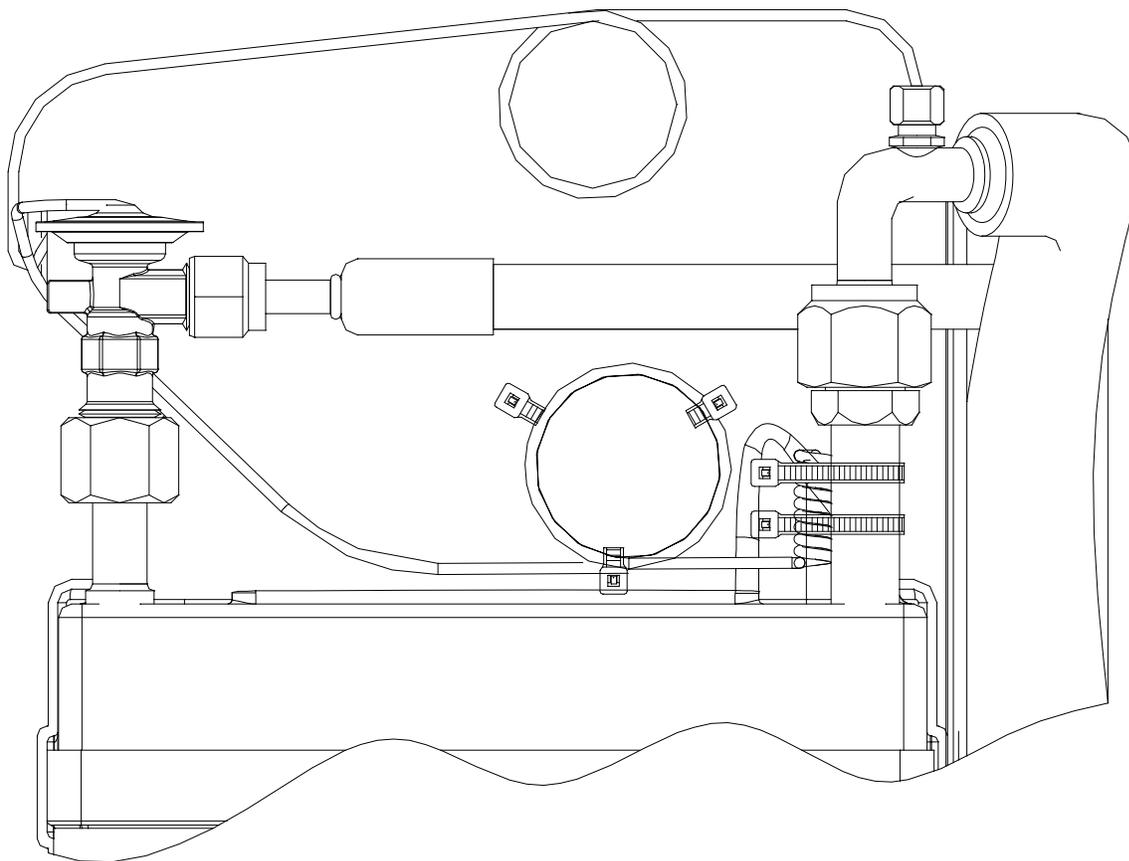

Figure 3
- 8) Install the thermal sense bulb such that it makes contact with the suction tube along its entire length with two or more cable ties as shown in Figure 3.